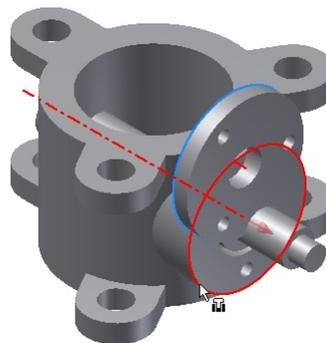

Figure 9-67 Selecting the edges to apply the **Insert** constraint again
8. Select the circular edge of the Retainer that is coplanar with the Body as the first edge to apply the constraint, see Figure 9-67. You may have to rotate the model to select this edge.
9. Select the circular edge of the front circular feature on the Body as the second face to apply the constraint, see Figure 9-67. Choose **Apply** to assemble the components and then choose **Cancel** to exit the dialog box.